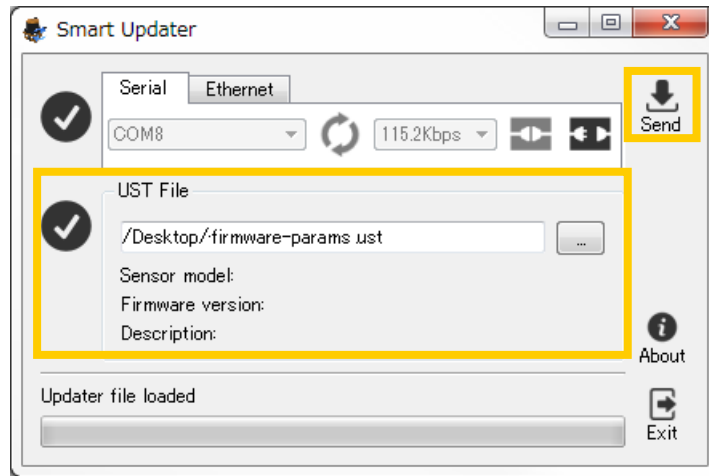

Fig B.2.3-4 After selecting update file
2. Click on [...] to access the Open dialogue and select the update file of the firmware (file extension: \*.ust). When the update file of the firmware is opened, [Send] button on the top right will be activated; of the window. “Smart Updater” will change as illustrated in Fig. B.2.3-4 and the icon on the left side that indicates the processing status will change from  to .